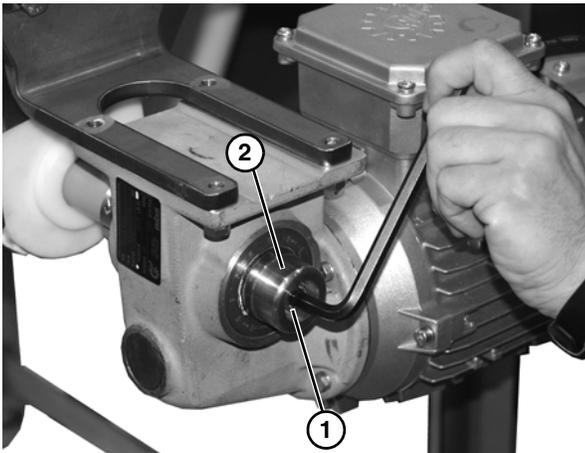

Figure 36
1. Remove socket head screw (Figure 36, item 1) and gear reducer end cap (Figure 36, item 2) .